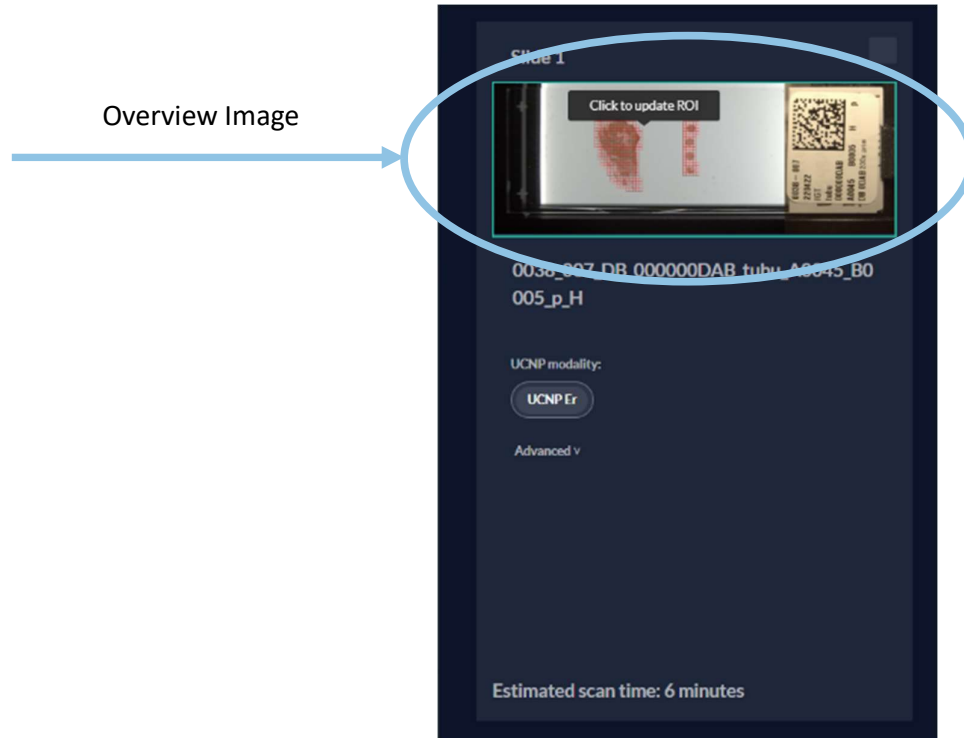

Figure 6-18 Overview highlighted which, when clicked, opens the ROI window.
1. Click the **Overview Image** to show the ROI window of the desired slide (*Figure 6-18*).